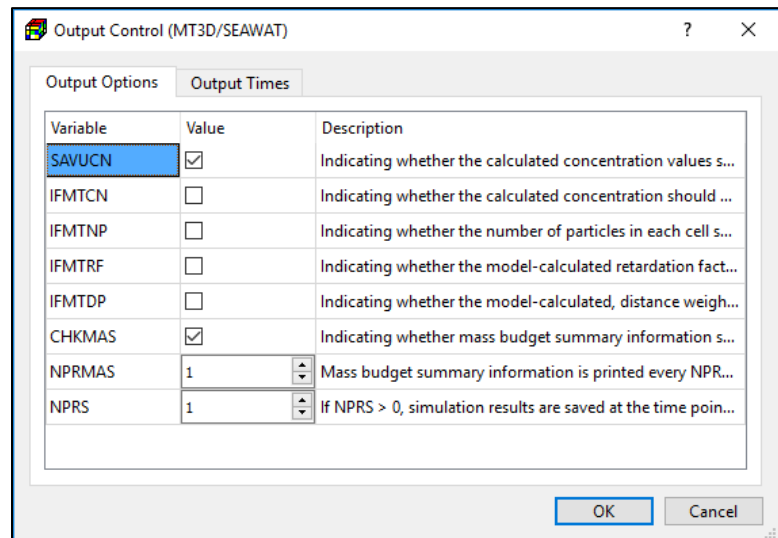

Figure 117. The Output Options tab of the Output Control (MT3D/SEAWAT) dialog box
1. Output Options Tab (Figure 117)